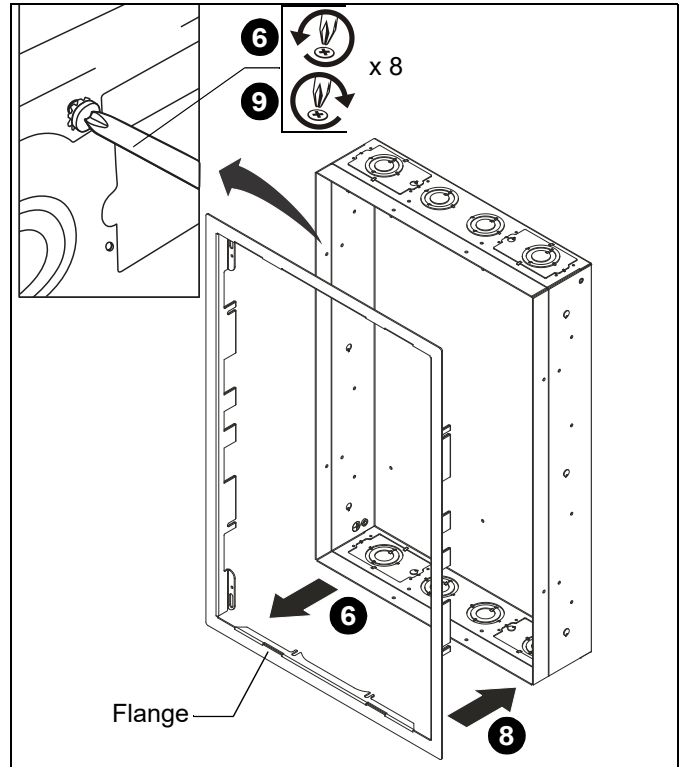

Figure 5
6. If present, remove box flange by loosening screws. (See Figure 5)